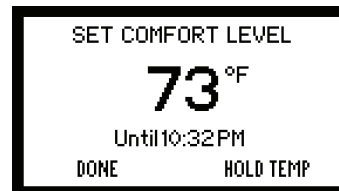

Figure 10.2
- A battery icon appears on your wall control to let you know you are now operating on battery power. **Figure 10.2.**